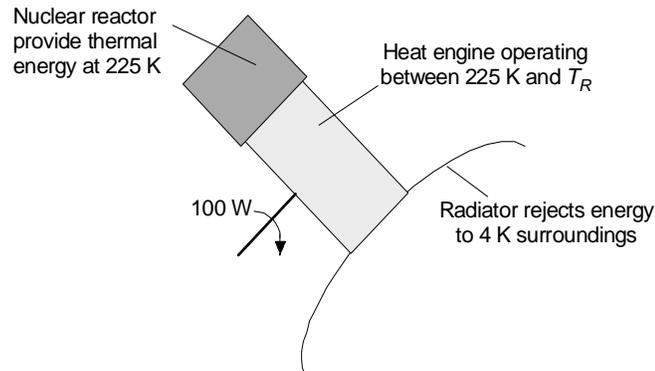

Figure 8.D-11: Nuclear powered heat engine in space
- 8.D-11 A power module capable of supplying 100 W must be designed for a satellite that will orbit the earth. A heat-power engine is proposed (see Figure 8.D-11) that will operate between two fixed temperatures, as in the Carnot cycle. High temperature thermal energy is directly supplied to the engine at 225 K from a small nuclear reactor. However, the only way in which heat can be rejected from the engine is by radiation to outer space. The rate of heat rejection from the engine is $\dot{Q}_L = \sigma A(T_R^4 - T_{space}^4)$ where σ is the Stefan-Boltzmann constant $= 5.67 \times 10^{-8} \text{ W/m}^2\text{-K}^4$, A is the surface area of the radiator, T_R is the low temperature seen by the heat-power engine and T_{space} is the equivalent temperature of outer space, estimated to be 4 K. What is the minimum possible radiator area necessary for the power module?